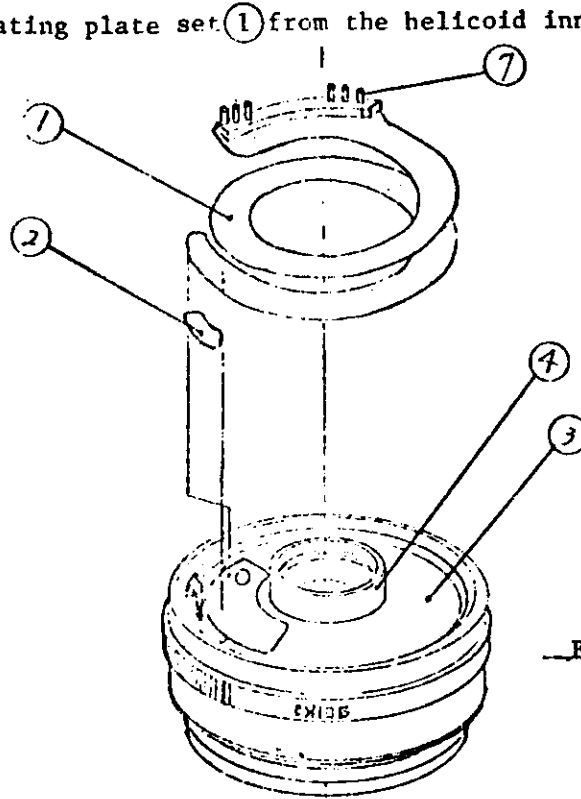

Fig. 1
Attach a piece of flexible fixing tape (2) to the contact piece and insulating plate set (1) by the procedures shown in Fig. 1 and 3.